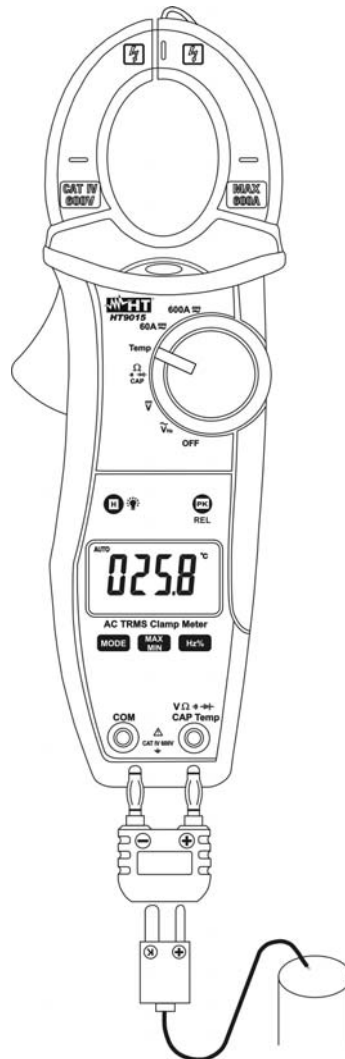

Fig. 12: Taking Temperature measurement
3. Insert the type K bead probe in **VΩ + CAP Hz %Temp** and **COM** inputs terminals using the standard adapter and observing the correct polarity (see Fig. 12). The temperature value is shown at display